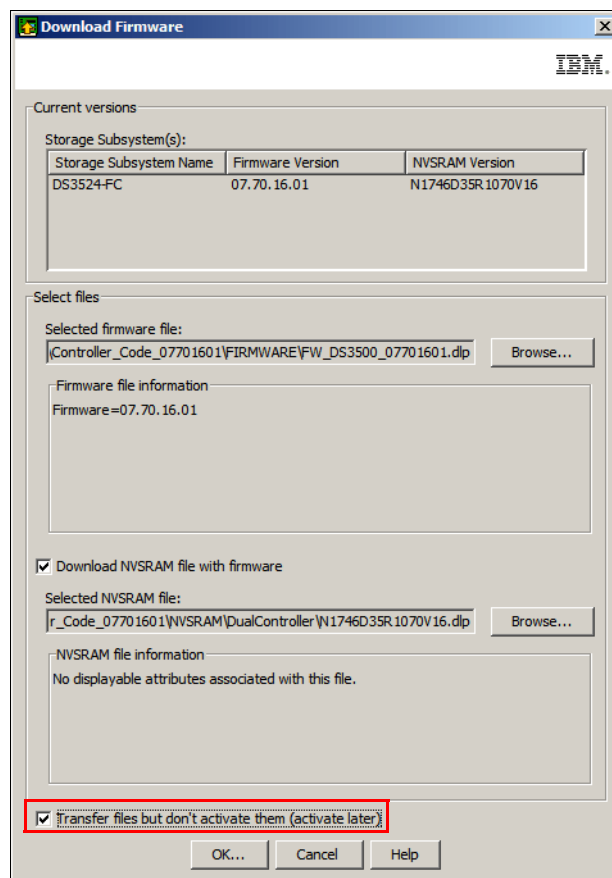

Figure 14-46 Transfer firmware and NVSRAM only (activate later)
- a. To transfer the firmware and NVSRAM, select the check box option at the bottom of the **Download Firmware** window. See Figure 14-46.